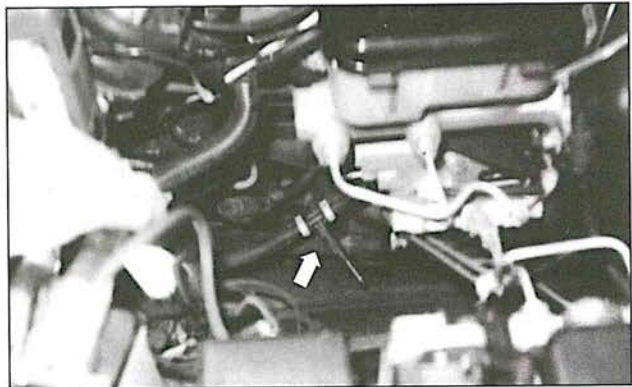

Fig. 12
### 5B. Vacuum supply – '94 - '96 vehicles (refer to Figure 12).
- Locate the existing "T" in the vacuum harness (see Fig. 12). Remove the existing tube from the "T". Attach the supplied 1 1/2" length of 1/4" I.D. hose to the "T".